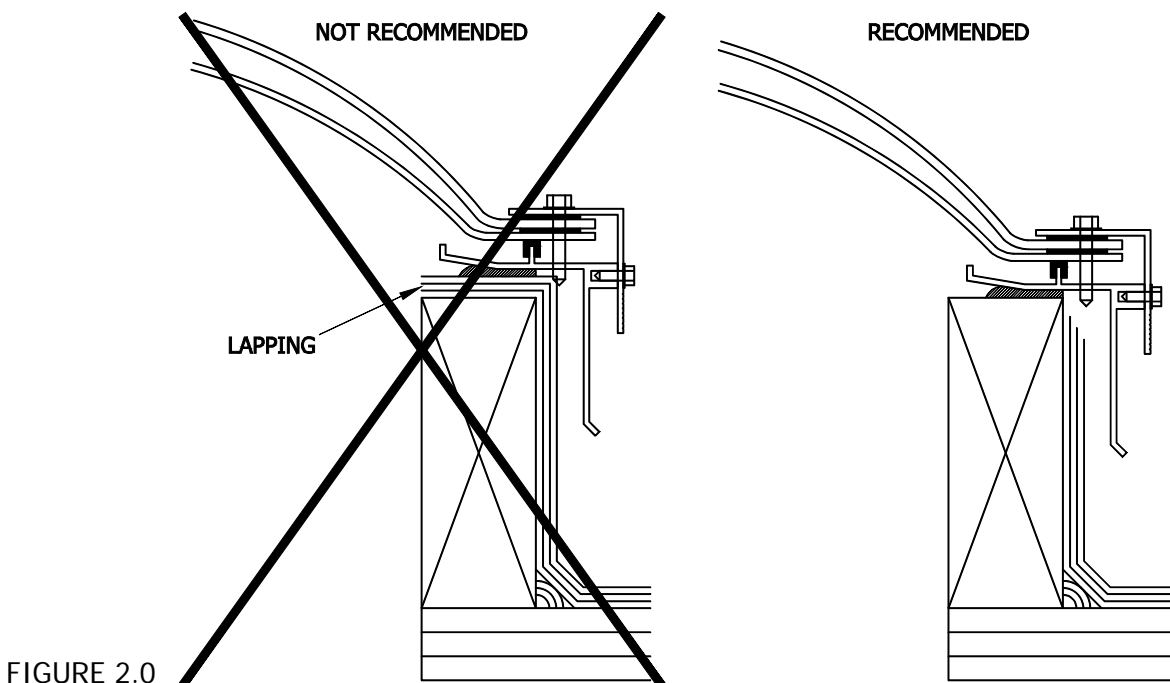

FIGURE 2.0
- Running the roof material up the side of the curb is common. Running or lapping the roof material over the top of the curb is not recommended (See Figure 2.0). This practice often creates an uneven surface for mounting the skylight resulting in a poor seal even with the application of a sealant bead on the top of the lapped roofing before installing the skylight. The result is often air and/or water leakage between the skylight and lapped roofing and curb to the interior of the building.